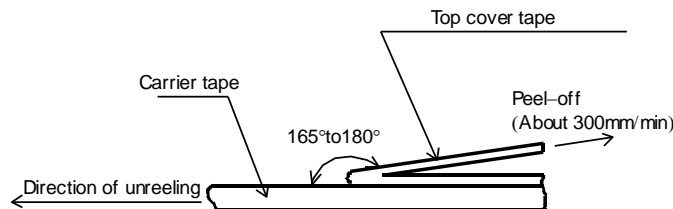

Figure-4
- 5). The peel strength of the top cover tape shall be within 0.1N to 0.5N on the test method as shown in the following RMAW06: Figure-4.